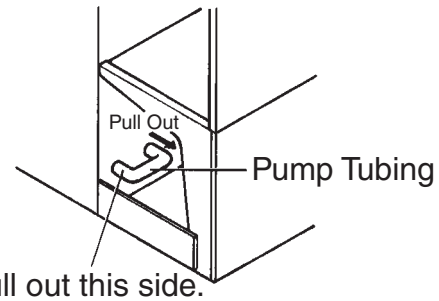

Fig. 4
- 5) Remove one end of the pump tubing. See Fig. 4. Drain the water tank. Replace the pump tubing in its correct position.